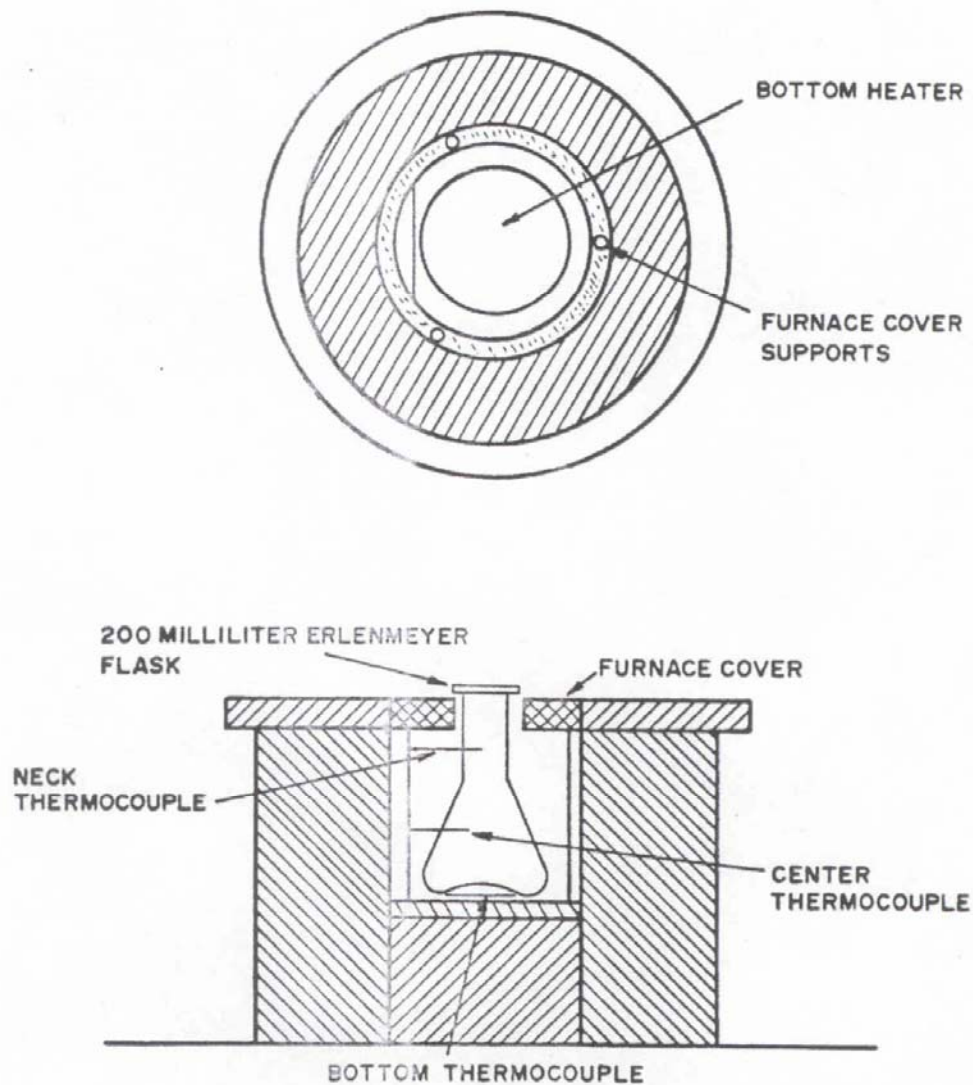

Figure 4
- 7.1.3. Remove the furnace cover and place a clean 200-ml Erlenmeyer flask inside the furnace as shown in Figure 4.